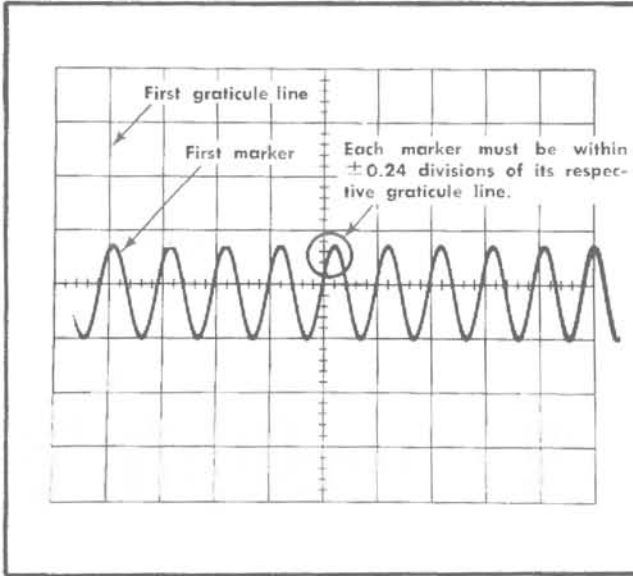

Fig. 6-50. Typical CRT display when checking 0.5 microsecond \times 10 magnifier linearity.
- c. CHECK—CRT display for each marker within ± 0.24 division of its respective graticule line ($\pm 3\%$; see Fig. 6-50).